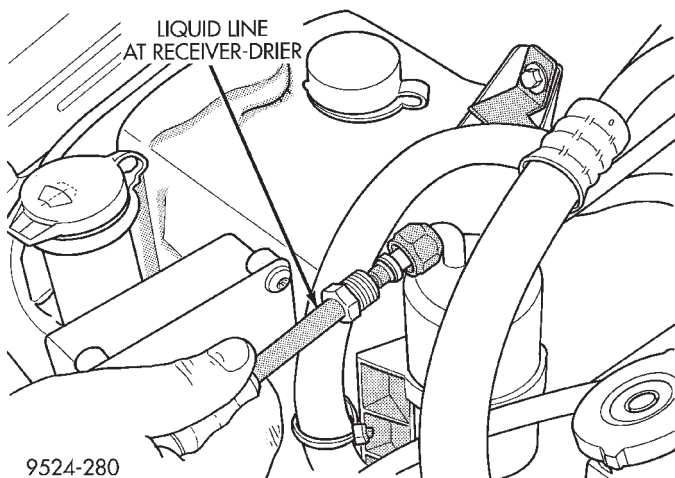

Fig. 64 Liquid Line at Receiver/Drier
- (4) Disconnect liquid line from the receiver/drier (Fig. 64).
- (5) Remove the liquid line from the vehicle.